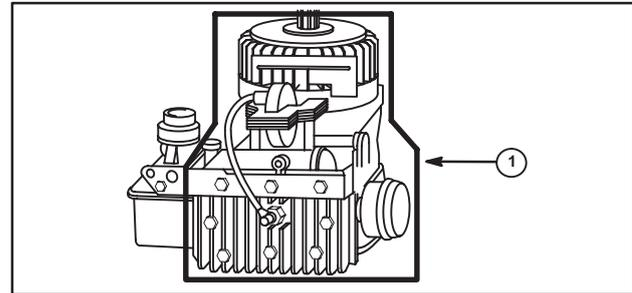

Fig. 5
Grass particles, chaff or dirt can clog the air cooling system. Continued operation with a clogged cooling system can cause severe overheating and possible engine damage. Figures 5, (vertical crankshaft model), and 6, (horizontal crankshaft model) show the blower housing removed and areas to be cleaned (1). This should be a regular maintenance operation, performed yearly or every 100 hours, whichever comes first. Clean more often if necessary.